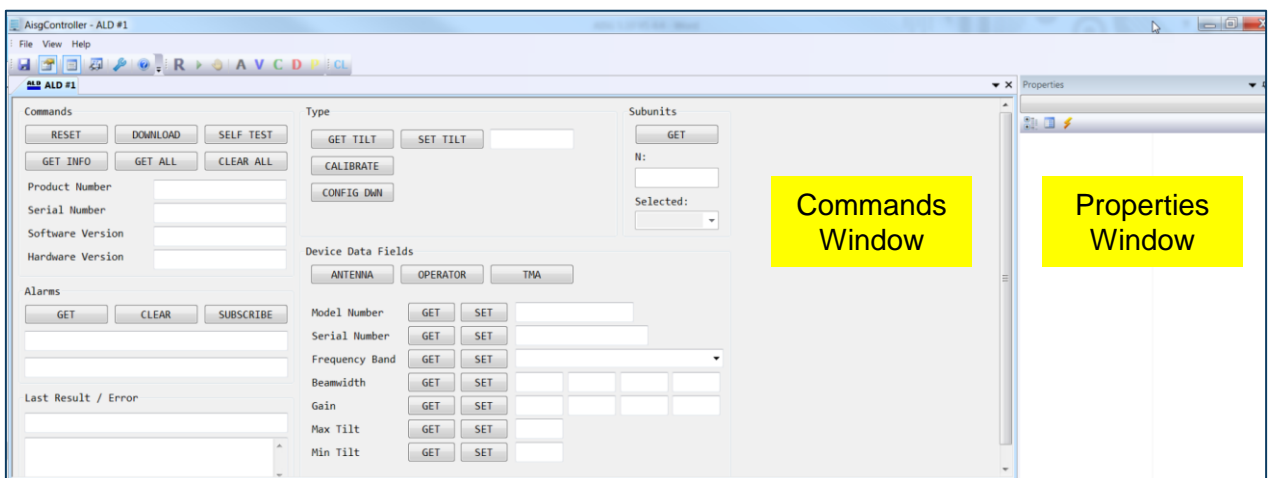
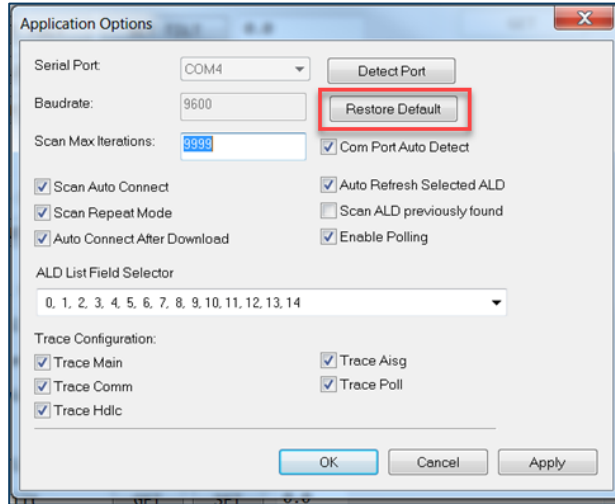

Fig. 8 - Commands and Properties windows before antenna information
Fig. 9 – Options selections
- When you eventually enter RET commands, the window will begin to populate, as represented in Figure 8.
5. If you accidentally close the Commands or Properties windows, or change it to where it no longer displays like Figure 8, you can go back to the default view by clicking on the  and selecting . See Figure 9.
- a. The COM setting options icon is used to verify that the COM port is recognized with an assigned COM#, and that options are selected per Figure 9.